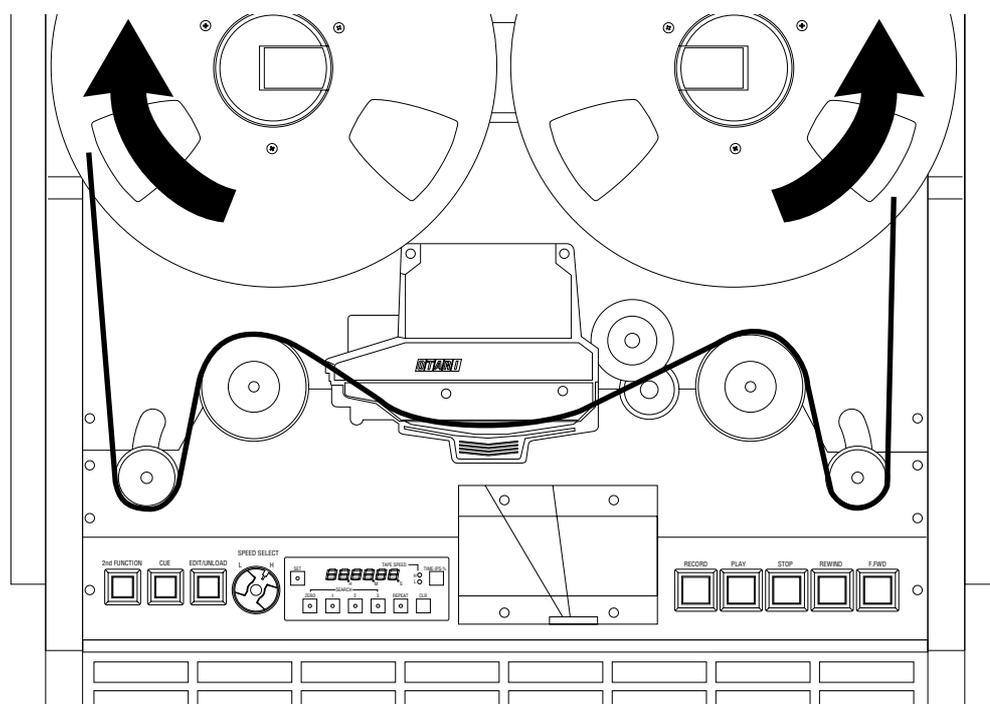

Figure 4-1
3. Pull about 4 feet of tape from the reel, and thread it around the left tension arm and guide roller, across the head assembly, between the capstan and pinch roller, around the tachometer roller and the right tension arm, and onto the take-up reel, exactly as shown in **Figure 4-1** and on the transport of the MX-80.